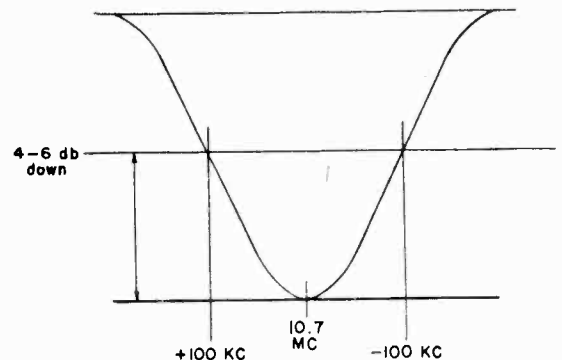

Fig. 7
12. Adjust IF slugs T7, T6, T5, for greatest vertical sweep of the pattern. Stagger tune (detune) slightly so that pattern looks like Fig. 7.